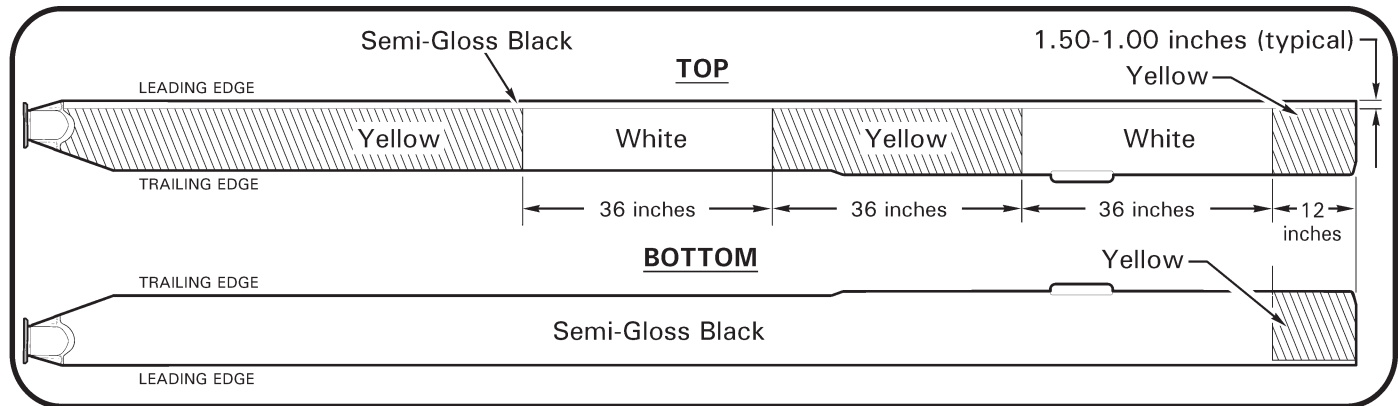

FIGURE 28-19 C016-7 MAIN ROTOR BLADE PAINT SCHEME
6. Refer to Figure 28-19. Apply dark gray, flat black, white, and/or yellow polyurethane enamel, as required, to primed area in accordance with paint manufacturer's recommendations.